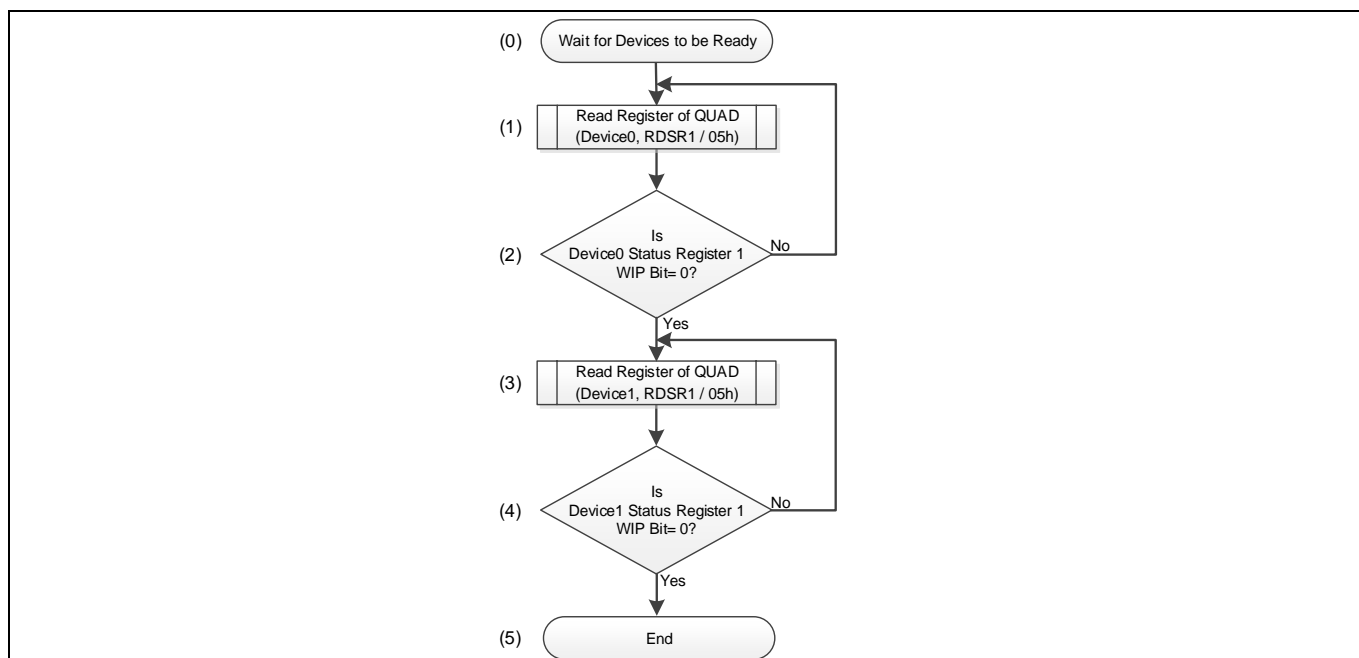
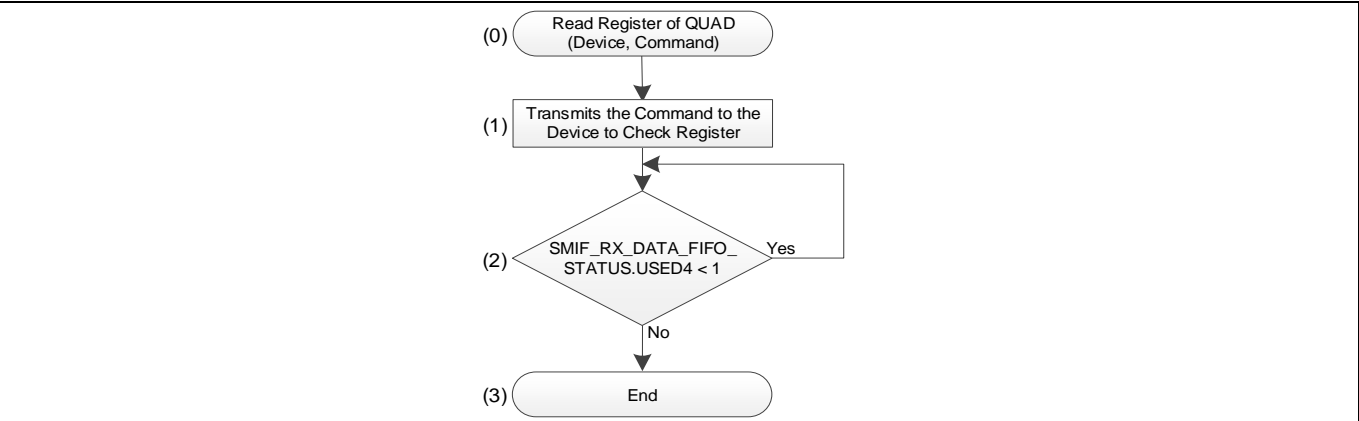

Figure 9 Software flowchart for wait for devices to be ready
Figure 10 Software flowchart to read register of QUAD
(2) Transmits the WREN command for 4SE command. See 3.4 Erase.
(3) Transmits the 4SE command to set all bits in the addressed sector to 1. See Table 5.
(4) Waits for devices to be ready. See Figure 9.
- (0) Set initialization for SMIF and the devices of dual-quad.
- (1) Initialize SMIF to send a command of QUAD. See 3.3.1 Initialization for SMIF.
- (2) Transmits the WREN command to allow WRR command to execute afterwards. See Table 2.
- (3) Transmits the RESET command to reset the memory to await any new command. See Table 2.
- (4) Wait for the devices to be ready. See Figure 9.
- (5) Transmits the RDCR (read configuration register) command to check the QUAD bit in device0. See Table 3.
- (6) Transmits the RDCR (read configuration register) command to check the QUAD bit in device1.
- (7) Transmits the RDSR1 (read status register-1) command to check the BP bits in device0. See Table 3.
- (8) Transmits the RDSR1 (read status register-1) command to check the BP bits in device1.
Figure 9 illustrates the flow of "Wait for Devices to be Ready".
The “Read register of QUAD” function is used in both Figure 7 and Figure 9. This function gets the value of the register of QUAD set with an argument. Figure 10 is flow chart for “Read register of QUAD”.
Table 4 explains the TX command FIFO entry for the WRR command. In this application note, SMIF_TX_CMD_FIFO_WR Setting of spi_select[0] and spi_select[1] are set separately for the WRR command. Figure 9 checks the WIP bit in devices to confirm the completion of the WRR command.
(7) End of encryption with MMIO mode is set for the example.
4QPP command is sent to program for devices as (7) in Figure 6. Before sending it, it is necessary to send WREN command of QUAD. Table 6 explains the TX command FIFO entry for Quad Page Program (4QPP 34h). Figure 9 checks the WIP bit in devices to confirm the completion of the 4QPP command completion.